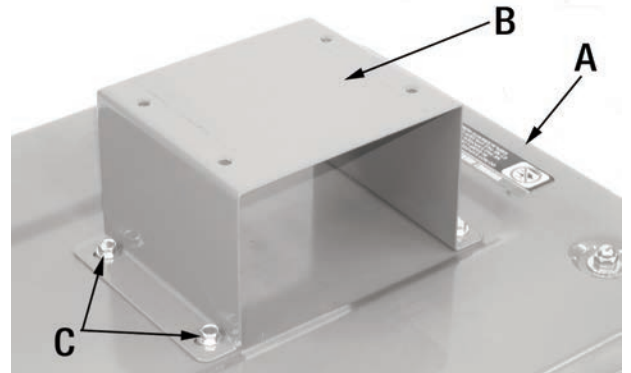

FIGURE 6
2. Place base with casters (A) Fig.6 on the ground and install the motor support (B) to the base using 4 hex. bolts (C). Tighten using the supplied wrench.